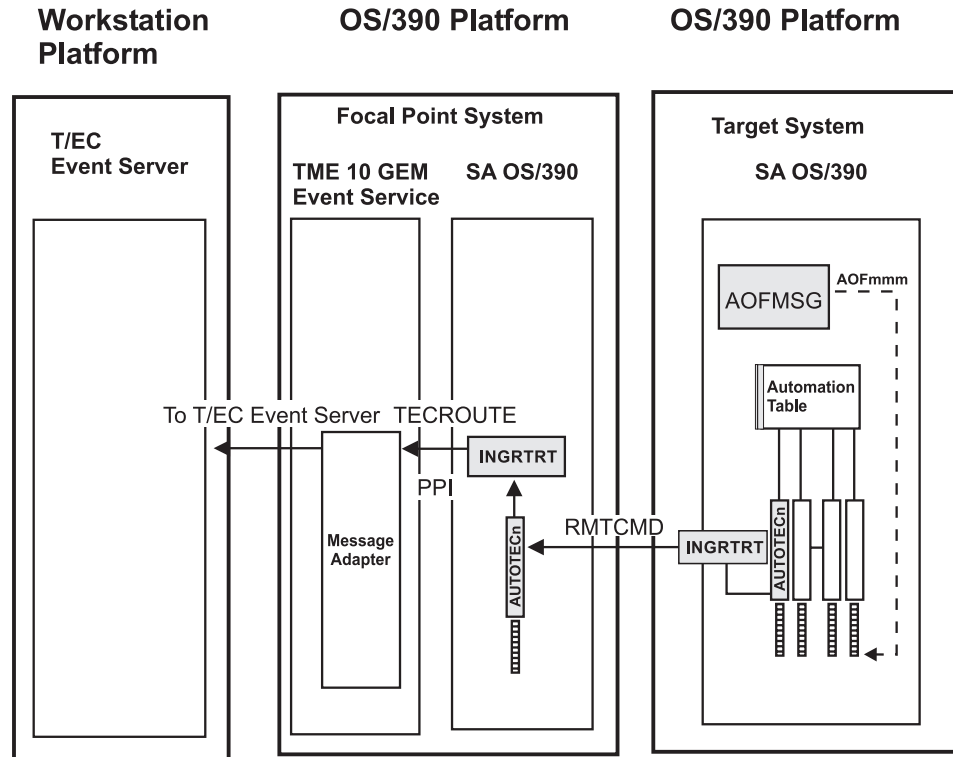

Figure 8. Distributed Configuration: Tivoli GEM Event/Automation Service remote to the SA OS/390 Source of Messages
- distributed configuration:** The message adapter or alert adapter is running on an OS/390 system different from the one on which SA OS/390 is running and issuing messages and alerts. In this scenario, the OS/390 system running the adapters must be the SA OS/390 automation focal point system. Such a configuration for message forwarding is illustrated in Figure 8 on page 39.